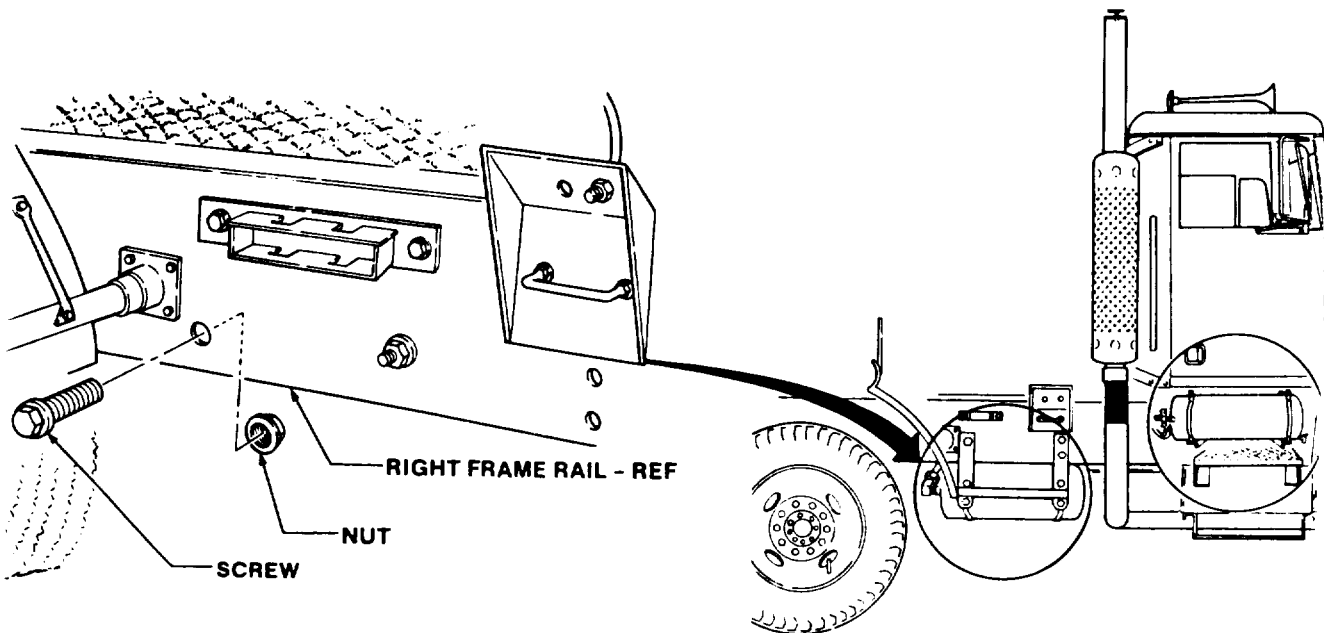

FIGURE 5
(9) Remove screw and nut from right frame rail as shown in figure 5.